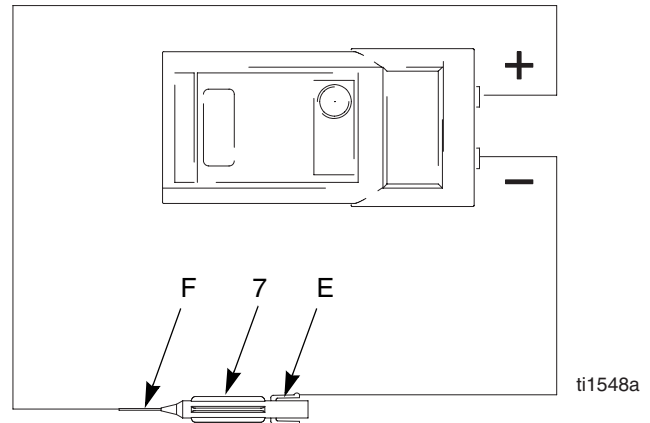

Fig. 18. Electrode
4. Remove the electrode (7), page 35. Measure the resistance between the contact (E) and the electrode wire (F). The resistance should be 20-30 megohms. If out of range, replace the electrode. See FIGURE 18.